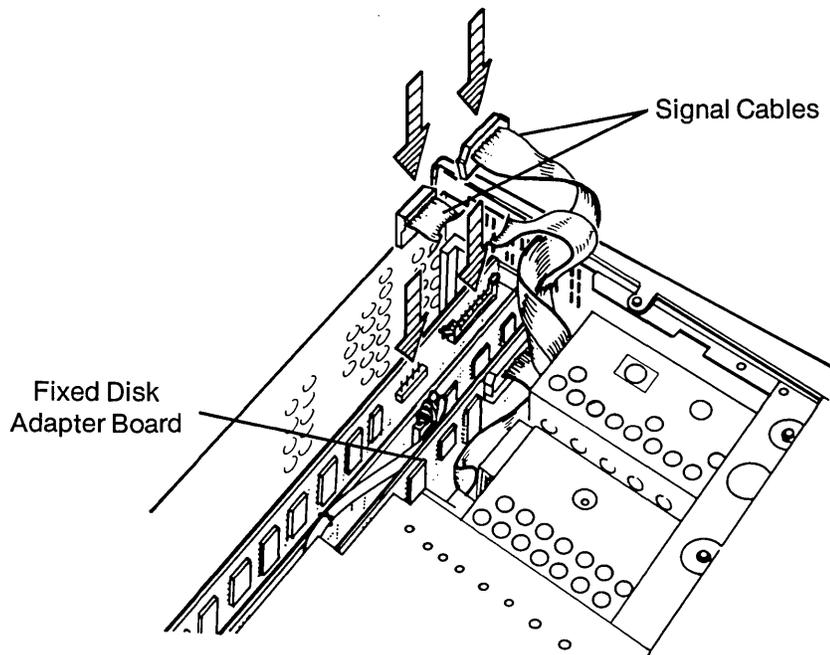

Figure 11-31. Connecting the Signal Cables to the Fixed Disk Adapter Board.
16. Carefully connect the two (2) flat-ribbon signal cables to the fixed disk adapter board, observe the correct orientation of the cable connector to the board (see Figure 11-31).